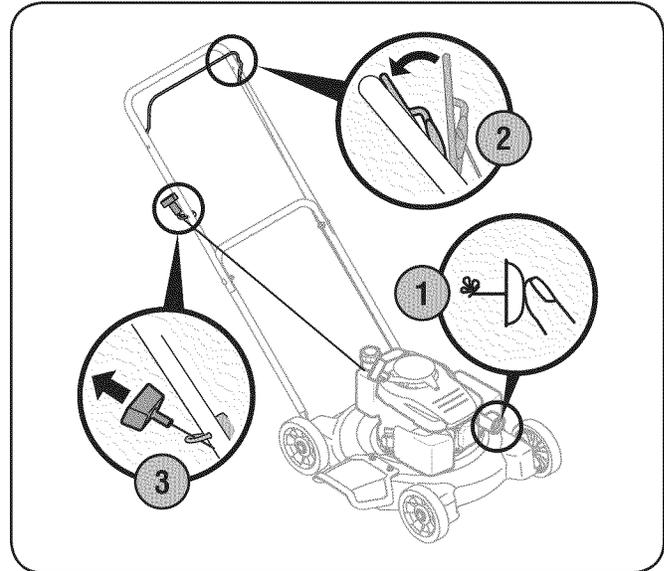

Figure 5-1
1. Push primer 1-3 times. Wait about two seconds between each push. See Fig. 5-1. In temperature around 50°F or below, prime 3-5 times. After the engine is warmed up, one prime may be needed for all temperatures.
3. Holding these two handles together firmly, grasp recoil starter handle and pull rope 1-3 times. See Fig. 5-1. Keeping a firm grip on the starter handle, let the rope rewind each time slowly. If engine does not start, it may be necessary to re-prime the engine.